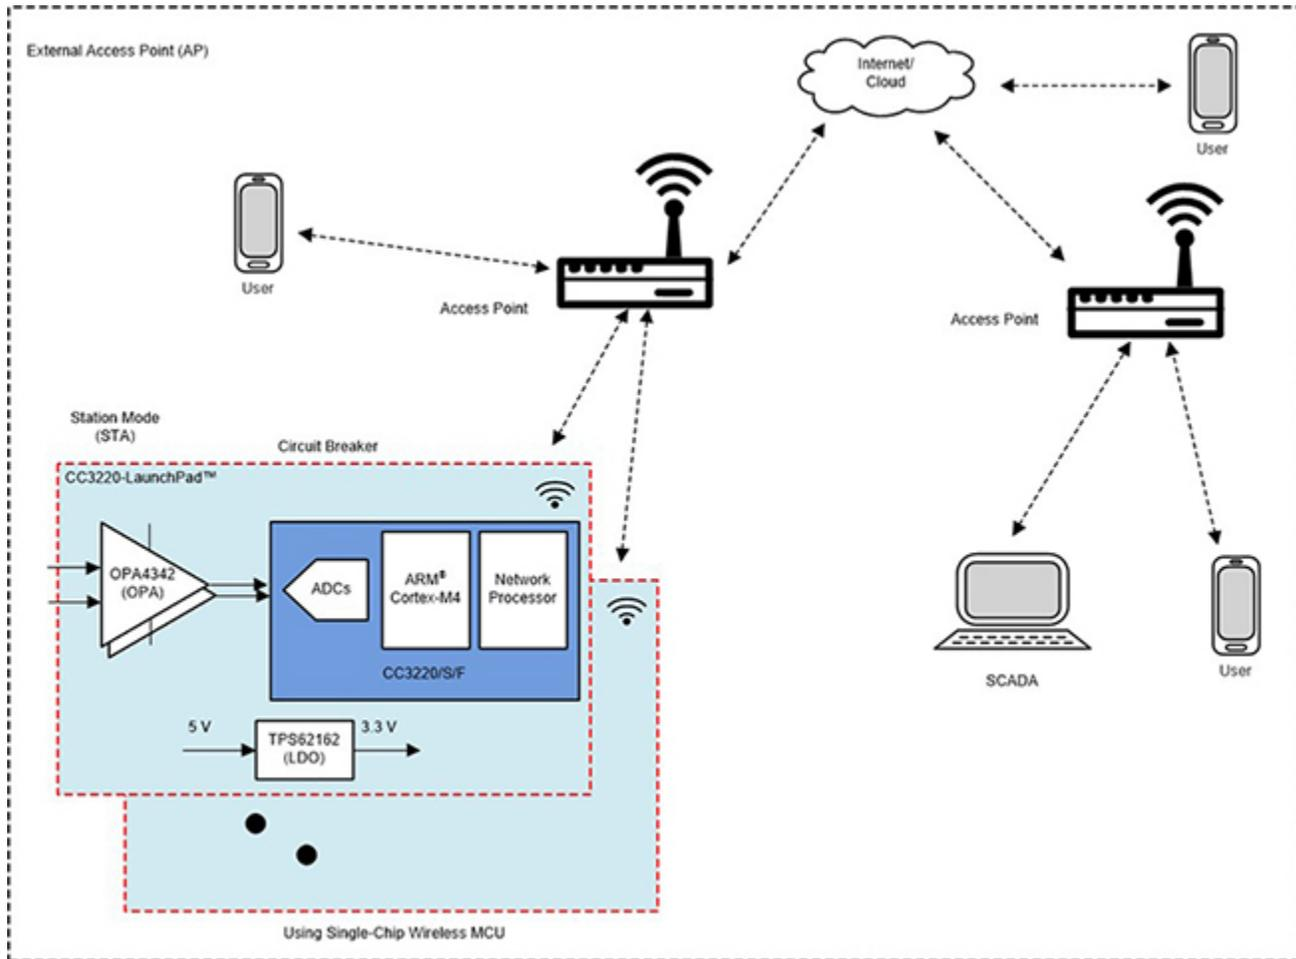

Figure 1. Cloud Connection through External AP
Connection to an external access point (AP) and/or the cloud. If you want to connect to an already established external AP and access the data from the cloud, the equipment with the Wi-Fi device, such as our CC3235S, CC3235SF or CC3220S, CC3220SF, is configured in station (STA) mode. The device connects to an already established external AP. Grid assets can send or receive messages to a remote handheld device that connects to the same AP or to the internet, as shown in Figure 1.